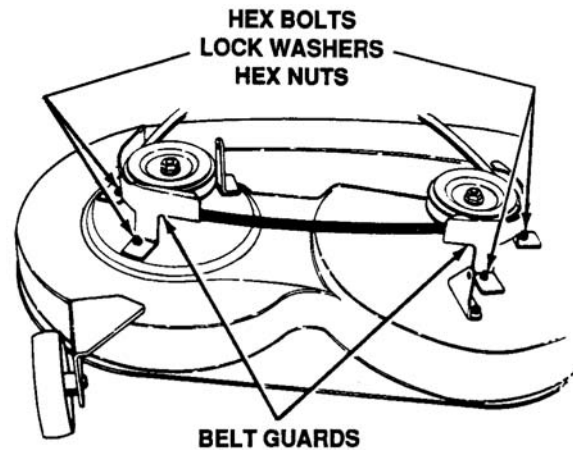

Figure 4-16. Location of Belt Guards
- h. Remove the belt guards at each deck pulley by removing the hex bolts, lock washers and hex nuts. Remove belt. See Figure 4-16.